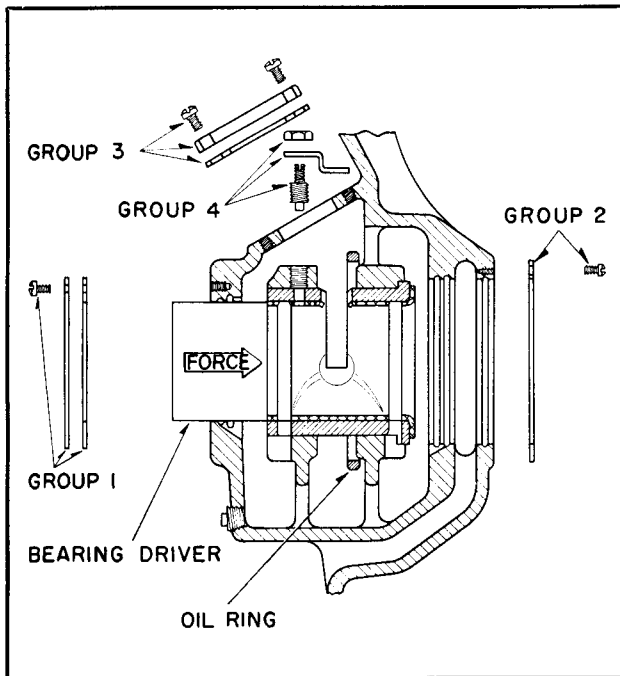

FIG. 6. Detail of Solid Sleeve Bearing
2. Remove oil ring inspection cover. (Group 3 of Fig. 6).
5. Remove outer and inner bearing caps. (Group 1 and 2 of Fig. 6).
7. Tap the bearing out toward the inside by placing a bearing driver or rod against bearing shoulder. (See Fig. 6).